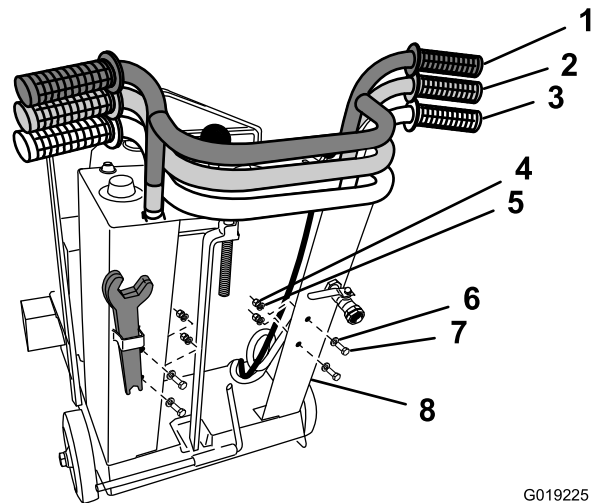

Figure 12
1. Locate the bolts that secure the handlebars to the back of the console (Figure 12).
2. Remove the bolts, nuts, and washers that secure the handle bar to the console (Figure 12).
3. Raise or lower the handle bar (Figure 12).
5. Secure the handlebar to the console with the bolts, nuts, and washers removed in step 2 (Figure 12).